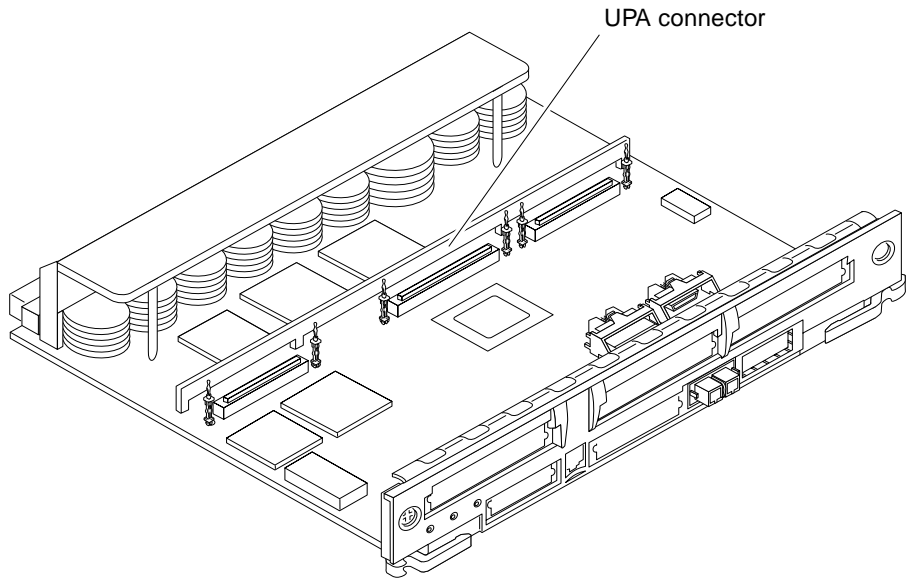

FIGURE 4-21 Graphics (UPA) Card Connector Location
The Graphics+ I/O board contains a single connector that accommodates graphics (UPA) cards (FIGURE 4-21).
4. **Locate the UPA connector for the card** (FIGURE 4-21).